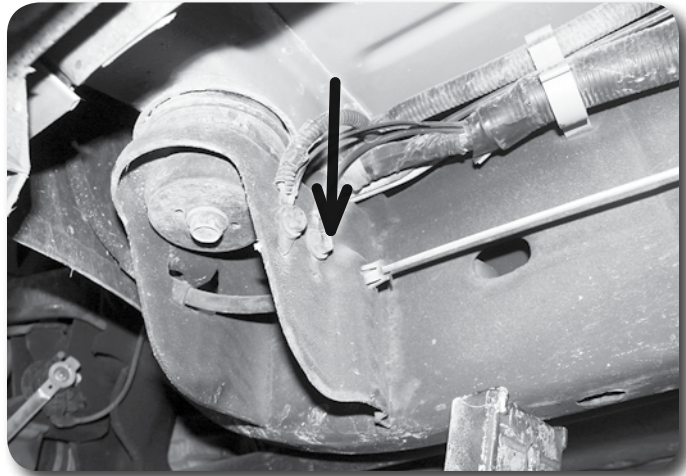

Figure 13
17. Disconnect the front section of the cable from the rear section at the connector just below the driver's side door. There is a small indent in the connector that must be removed to allow the cable to be pulled free **Figure 13**. Remove the indent with a punch, small rotary grinder or drill.